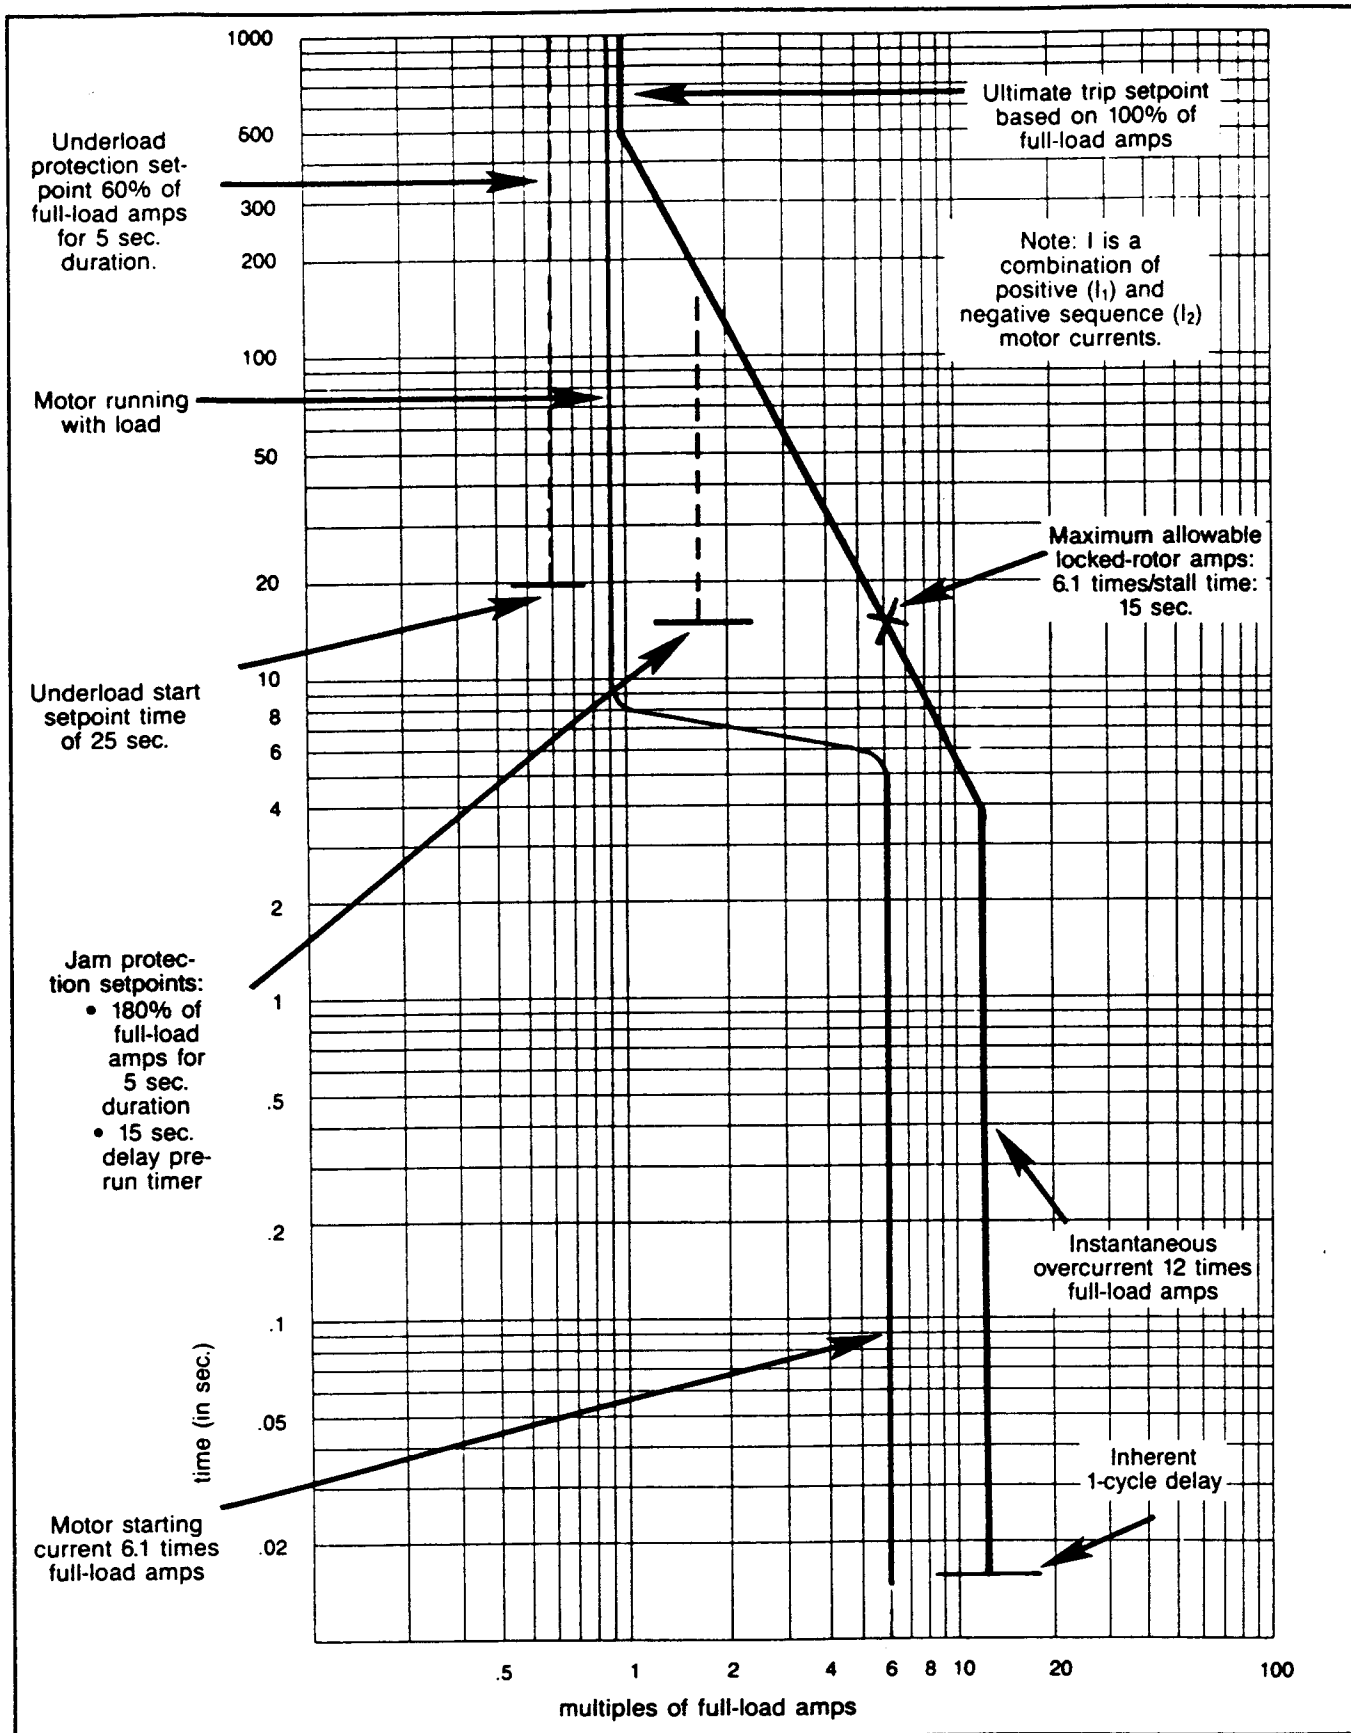
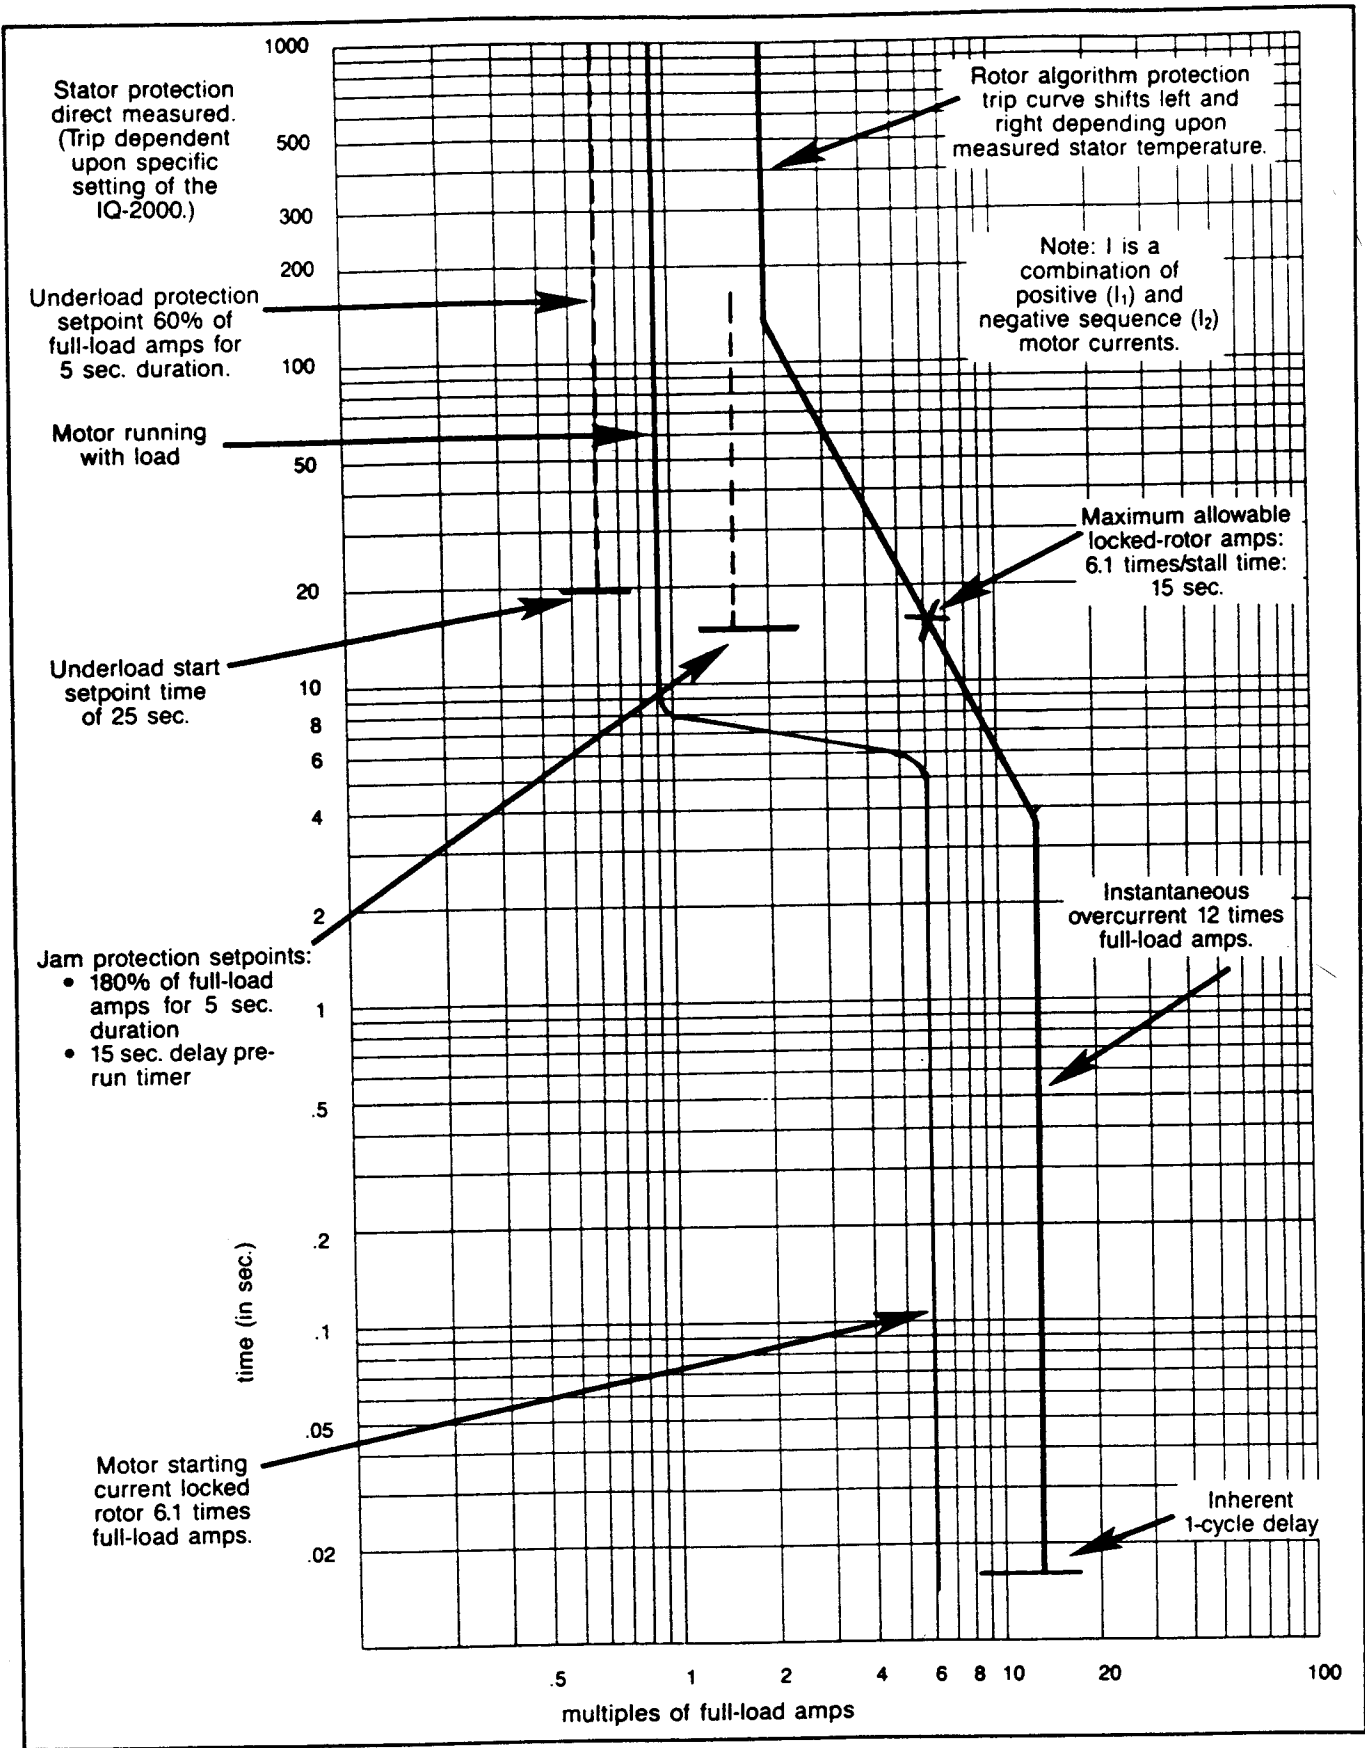

Figure 5.4 — Motor Protection Curve (without RTDs)
Figure 5.5 — Motor Protection Curve (with RTDs)
5.1.4 Typical Motor Protection Curves — To illustrate the effects of these protection features, 2 sample curves are shown. Using specific motor data, typical motor protection curves of the IQ-2000 are shown in Figure 5.4 without the use of RTDs. The use of RTDs is assumed in Figure 5.5. The following data was used:
The basic difference with the addition of RTDs is shown in Figure 5.5 in the time period after 60 seconds. With RTDs, the actual monitored temperature automatically overrides the ultimate trip setting of the IQ-2000. It should be noted that the ambient conditions that the motor is operating under will affect the top portion of the curve. The curve is shifted to the left with increasing ambient temperature, and to the right for decreasing temperature.
The effects of the motor winding temperature setpoint value which is available when RTDs are used are not evident in Figure 5.5. This setting is independent of the effects of temperature on the algorithm trip curve. The setting is based upon the recommended maximum stator temperature as supplied by the motor manufacturer. Depending upon the specific setting, the temperature trip curve would be to the left of the motor protection RTD algorithm.